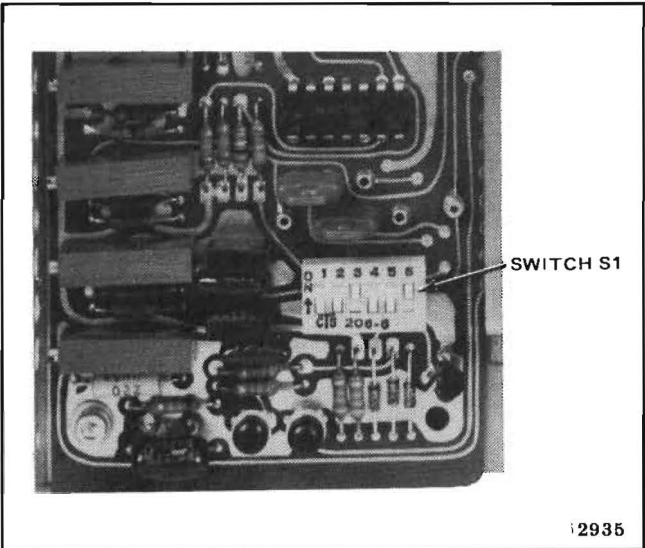

Figure 5-14. Record Equalization Standard Selector Switch S1, 2-Speed PADNET PWA
2. Set preset record equalization standard selector switch S1 (Figure 5-14) on PADNET to equalization standard desired for each of the two operating speeds, as shown in Table 5-10. Note that switches S1 through S1-3 are for the higher speed, and switches S1-4 through S1-6 are for the lower speed.